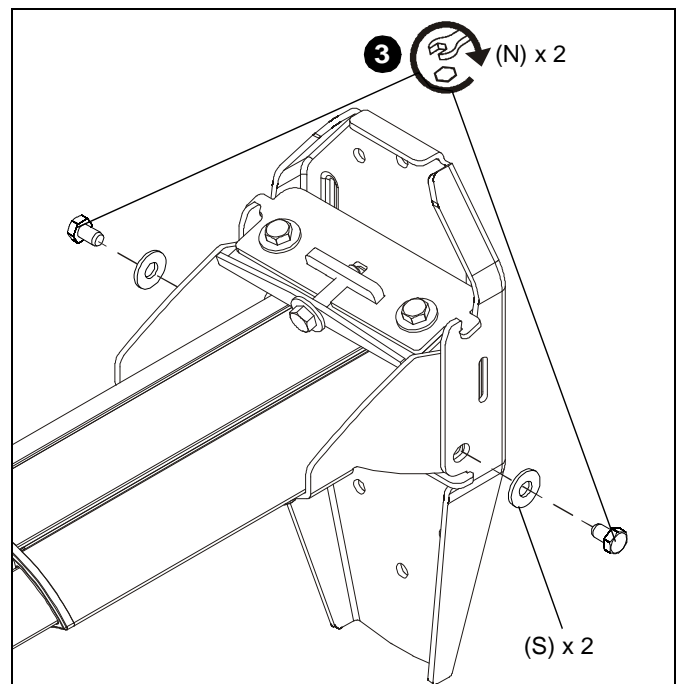

Figure 11
3. Fasten WMA1S assembly (A) to wall bracket (B) using two 5/16-18 x 1/2" hex head cap screws (N) through two 5/16" washers (S), the wall bracket and WMA1S. (See Figure 11)